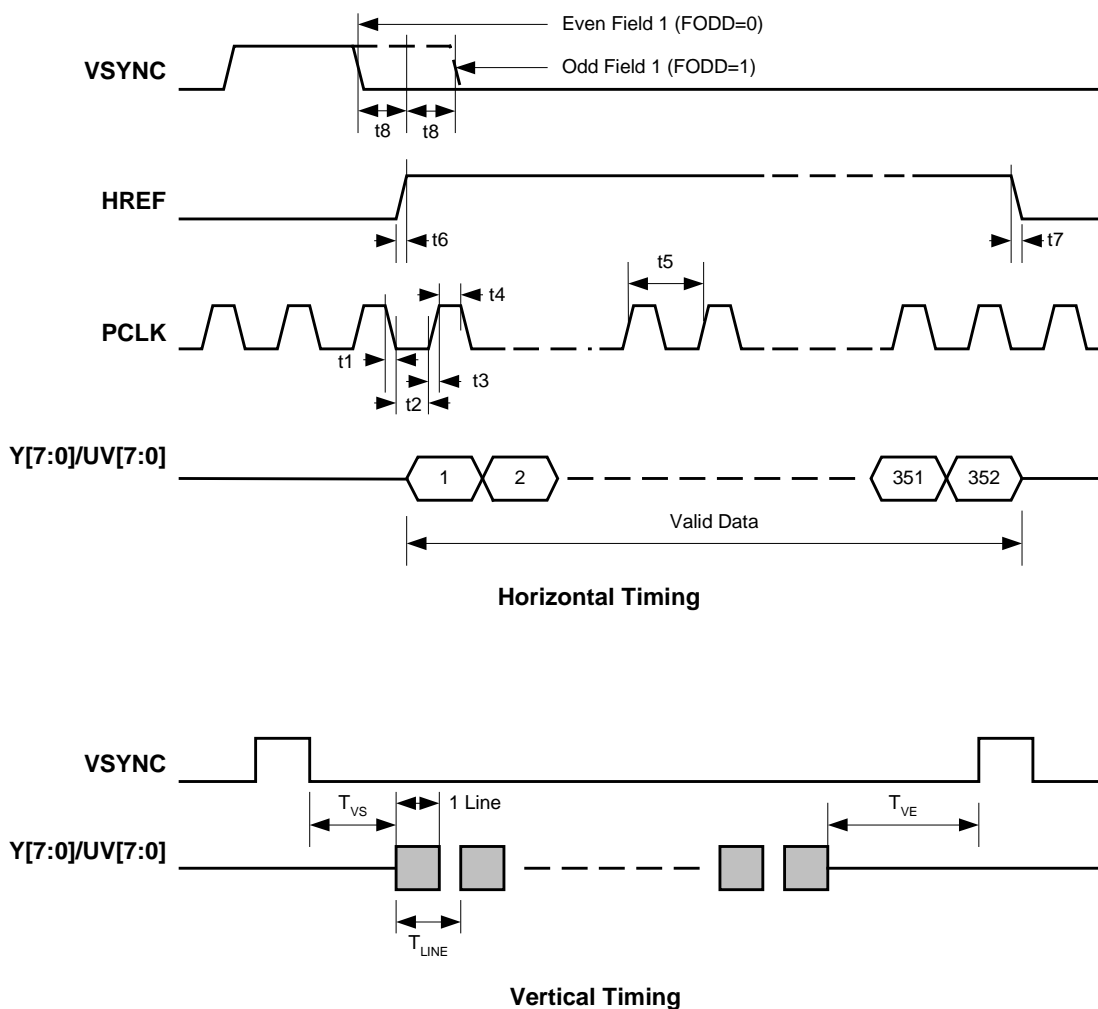

Figure 3. Zoom Video Port Timing
The OV6630/OV6130 image sensor includes a Zoom Video (ZV) function that supports standard ZV Port interface timing. Signals available include VSYNC, CHSYNC, PCLK and 16-bit data bus: Y[7:0] and UV[7:0]. The rising edge of PCLK clocks data into the ZV port. See Figure 3. Zoom Video Port Timing below.